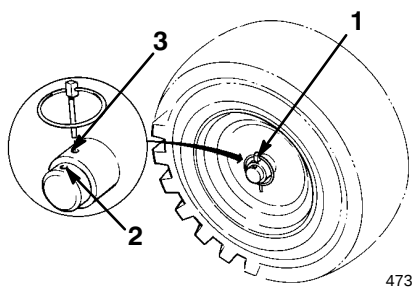

Figure 4
- Slide the wheels inward and install the axle pin through the holes in the wheel hub and through the **inner** hole of the axle (Fig. 4).